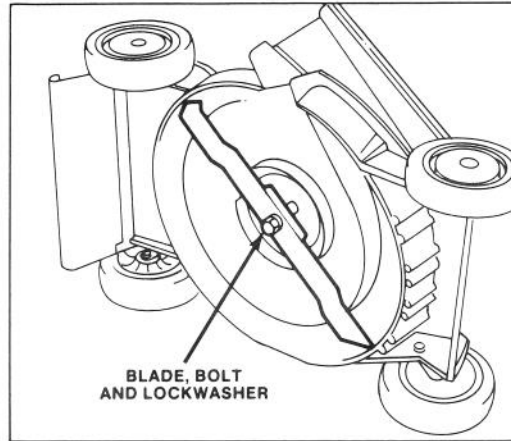

Figure 11
2. Tip mower on its left side (Fig. 11).
3. Tip mower on its left side (Fig. 11).
5. REMOVING BLADE — Grasp end of blade using as rag or thickly padded glove. Remove blade bolt, lockwasher and blade (Fig. 11).